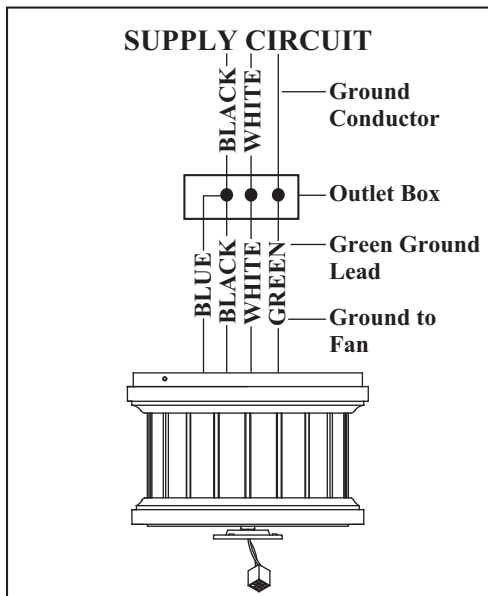

Figure 6
1. Connect the ground conductor of the 120V supply (this may be a bare wire or a wire with green colored insulation) to the green ground lead(s) of the fan (Figure 6).
2. Connect the fan motor white wire to the supply white (neutral) wire using a wire nut. (Figure 6)
3. Connect the fan motor black wire to the supply black (hot) wire using a wire nut (Figure 6).